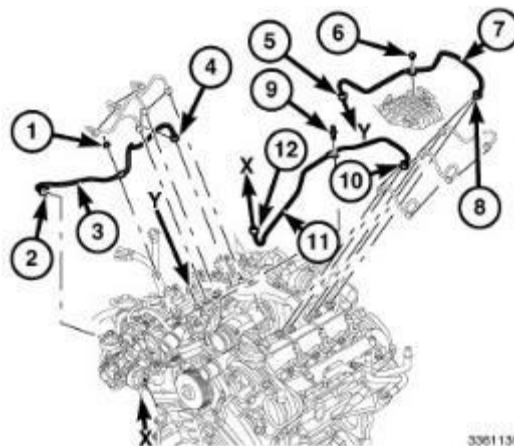

Figure 22 – Right Side Fuel Tubes
19. Remove the nut (1) securing the right high-pressure fuel tube (3) to cylinder head cover (Figure 22).
20. Remove the union nuts (2, 4) and the right high-pressure fuel tube (3), discard the fuel tube (Figure 22).
21. Remove the bolt (6) securing the high-pressure crossover fuel tube (7) to top of intake manifold (Figure 22).
22. Loosen the union nuts (5, 8) and remove the high-pressure crossover fuel tube (7), discard the fuel tube (Figure 22).
23. Remove the bolt (9) securing the left side fuel tube (11) to EGR air flow control valve (Figure 22).
24. Loosen the union nuts (10, 12) and remove the left high pressure fuel tube (11), discard the fuel tube (Figure 22).